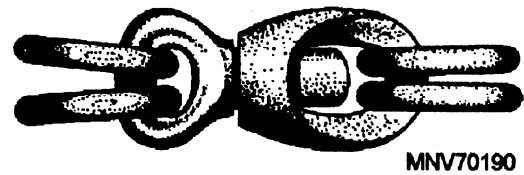

Figure 7-8.—Mooring swivel.
- **MOORING SWIVELS.** Forged steel swivels, with two links attached at each end (fig. 7-8), are used to moor with two anchors. They are inserted in the chain outboard of the hawse and keep the chain from twisting as the ship swings. Mooring swivels should be attached in the chain